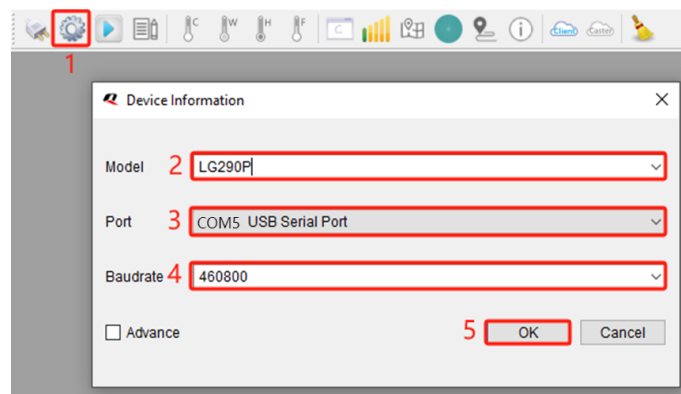

Figure 8: Device Information
- Step 1** Open QGNSS tool, click  to access “**Device Information**” window as shown in Figure 8: Device Information.